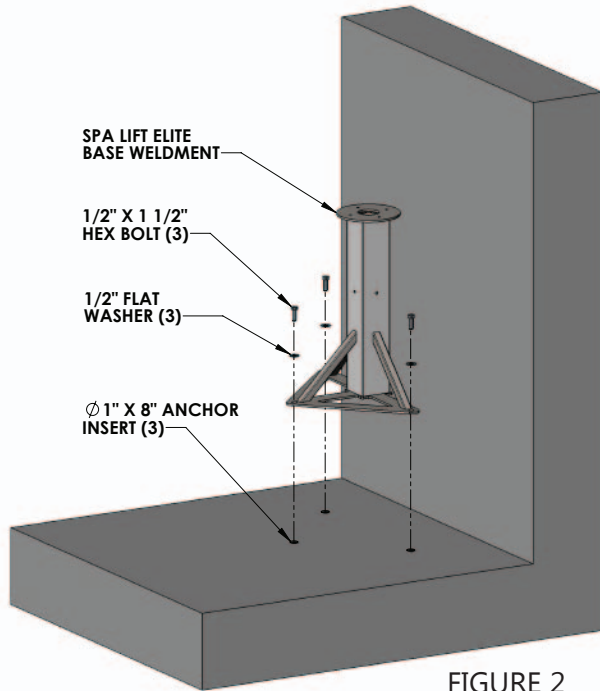

FIGURE 2
1. Once the anchor inserts have been installed, the base weldment can now be secured to the deck using the 1/2 inch hex bolts and flat washers. See FIGURE 2.